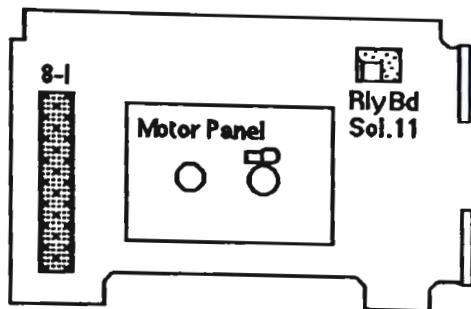
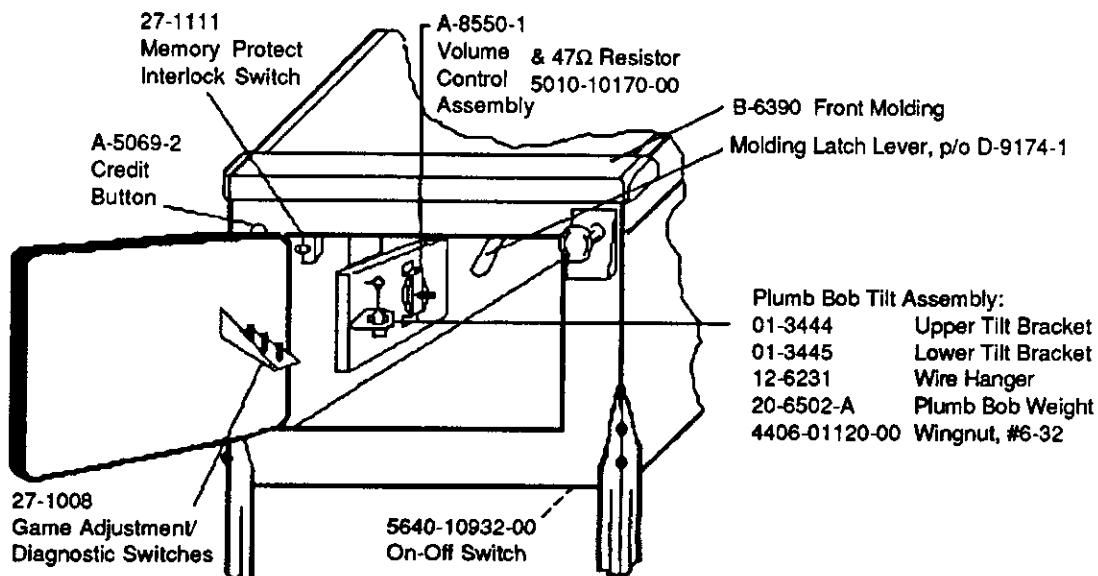

Figure 1. Locations Diagram - Game Circuit Boards and Major Mechanisms
Figure 2. Pinball Game Controls Locations
Figure 1 shows the locations of these circuit boards, as well as other devices especially located to make **BAD CATS** a great game.
Figure 2 shows the locations of the following switches, except for the last two (CPU and Sound Diagnostic switches, which are shown in the Backbox portion of Figure 1, along the left edge of the CPU Board).
Figure 1 shows the locations of the two CPU Board switches (left edge of CPU Board, Backbox View).
7. Unlock and open the coin door. Locate the Molding Latch Lever (shown in Figure 2), and move the lever toward the left side of the game, to release the Front Molding. Lift the Front Molding off the playfield cover glass; return the Latch Lever toward the right, and close the coin door. *Carefully* slide the glass downward, until it clears the grooves of the Left and Right Side Moldings. Lift the glass up and away from the game, storing it carefully to avoid breakage.